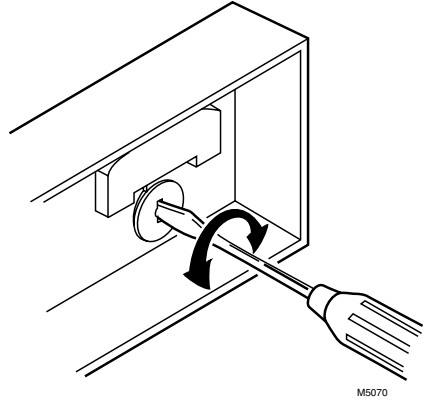

Fig. 11. Thermometer calibration.
- 4 Insert a small screwdriver into the thermometer shaft and turn it until the thermometers read the same. See Fig. 11. When the thermometer is calibrated, replace the cover and place the system into operation.